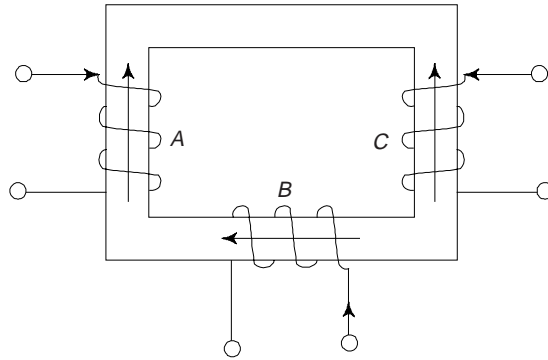

Fig. P2.5
2.5 The core made of cold-rolled silicon steel (B - H curve of Fig. 2.15) is shown in Fig. P2.5. It has a uniform cross-section (not iron) of 5.9 cm^2 and a mean length of 30 cm . Coils A, B and C carry 0.4 , 0.8 and 1 A respectively in the directions shown. Coils A and B have 250 and 500 turns respectively. How many turns must coil C have to establish a flux of 1 mWb in the core?